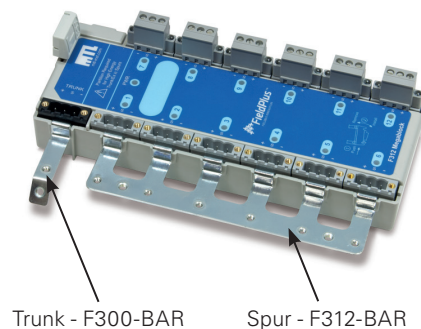

Figure 5.6: Typical grounding bars
Each fieldbus terminal, trunk or spur, on a Megablock can be fitted with an FS32 surge protector to prevent damage to the internal components. The FS32 uses the same pluggable connector as the field connector; so the field connector is removed, the FS32 inserted and the original field connector is fitted to the FS32. See Figure 5.6 & 5.7.
2. Locate the grounding bar lugs in the moulded positions on the side of the Megablock and press it firmly into place- see Figure 5.6.
A separate grounding bar (F300-BAR) is used for the trunk connector, which must be similarly connected to ground- see Figures 5.6 & 5.7 Follow a similar procedure to the one above for the trunk circuit.